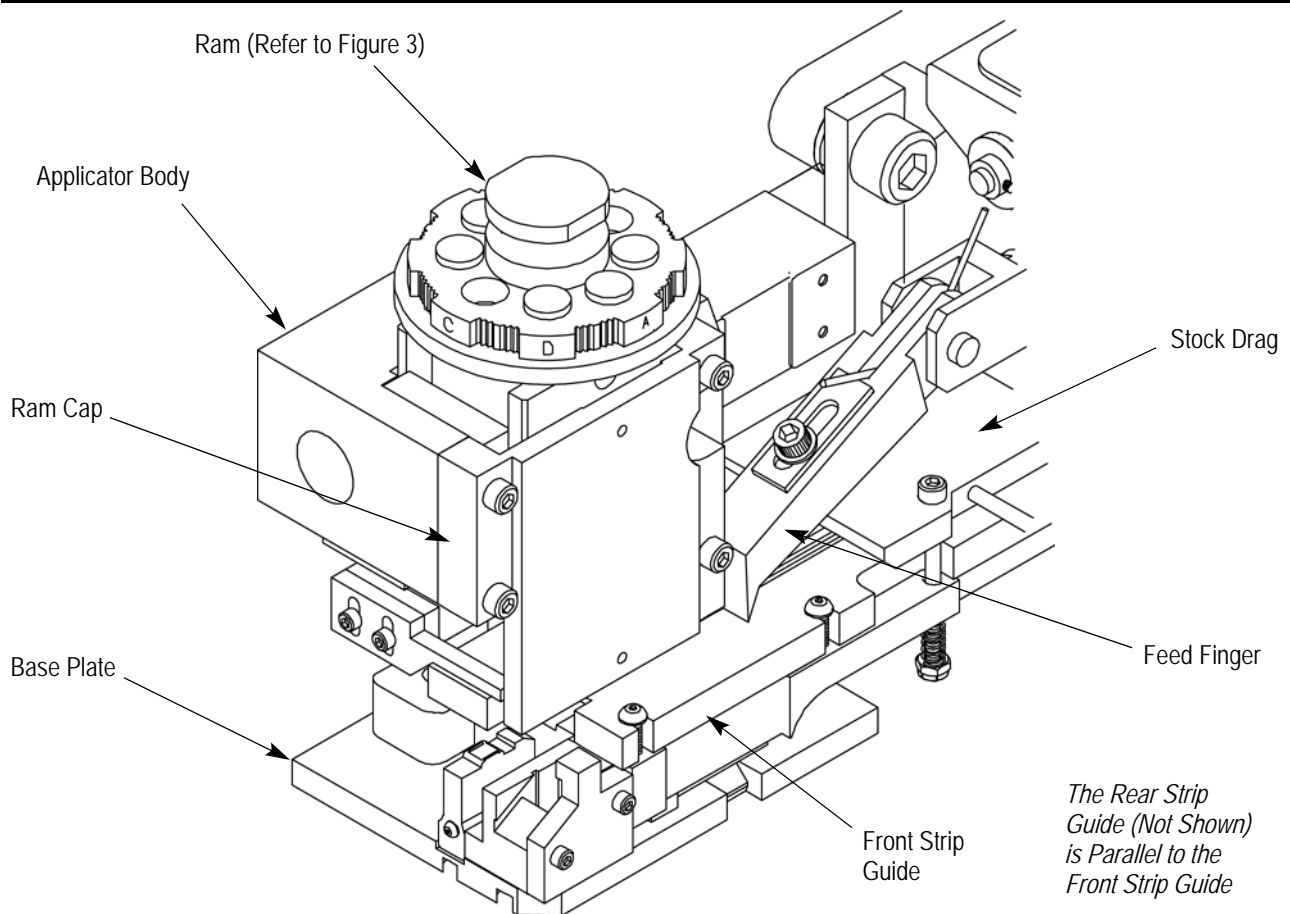

Figure 2
5.4. Strip Guide Adjustment (Figure 2)